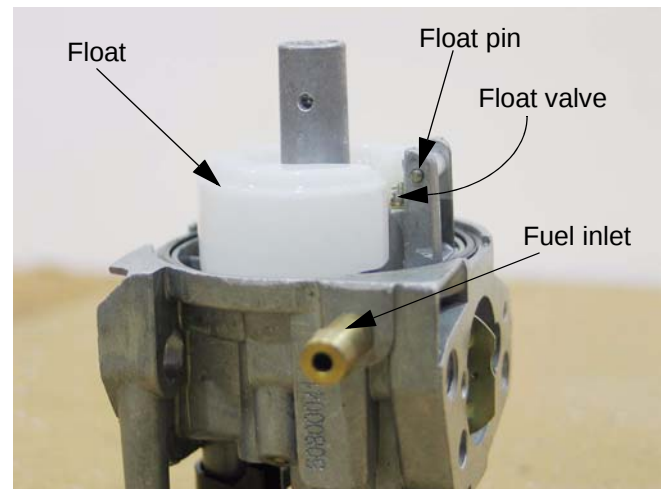

Figure 8.25
8.25. When inverted, the float should rest in a level position. See Figure 8.25.